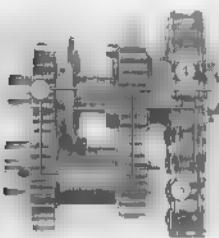

Fig. 3.113 Low speed range.
• Low speed range. (Fig. 3.113)